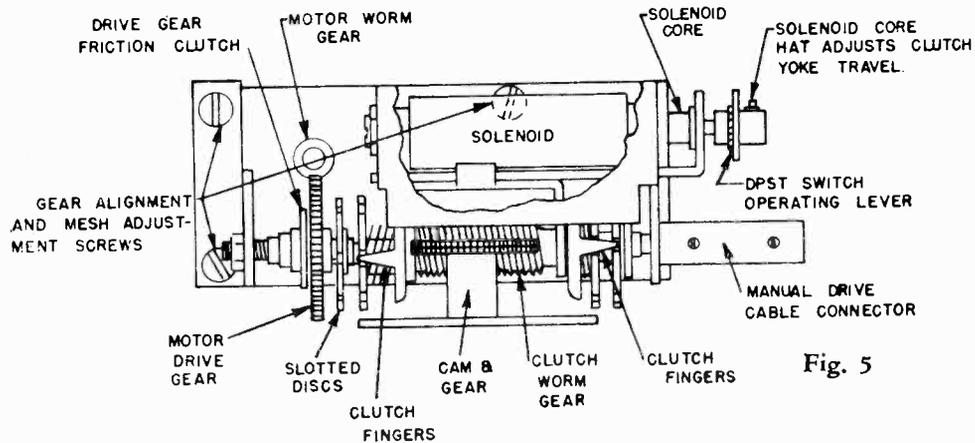

Fig. 5
6. The motor switch (Illus. No. 113B) does not close properly. This switch should close before the clutch fingers engage the slotted disc on the motor drive gear. (See Fig. 5). It should open before the clutch fingers engage the manual drive slotted disc. This may appear as intermittent trouble.
- b. The clutch engaging yoke does not have enough travel. Adjust the solenoid core "hat" so that the clutch fingers extend into the slotted disc but not through it when the solenoid plunger is all the way in. Check the screw under the solenoid that holds the two pieces that make up the clutch yoke. If this screw is loose tighten it with the linkage in its extended position and solder these securely in place. (See Fig. 5)
- a. The motor drive gear friction safety clutch has failed. (See Fig. 5)
- b. The gear teeth are worn. (See Fig. 5)
- c. The gears are out of alignment or mesh. The three mounting screws that mount the gear housing to the motor control the position of these gears. (See Fig. 5)